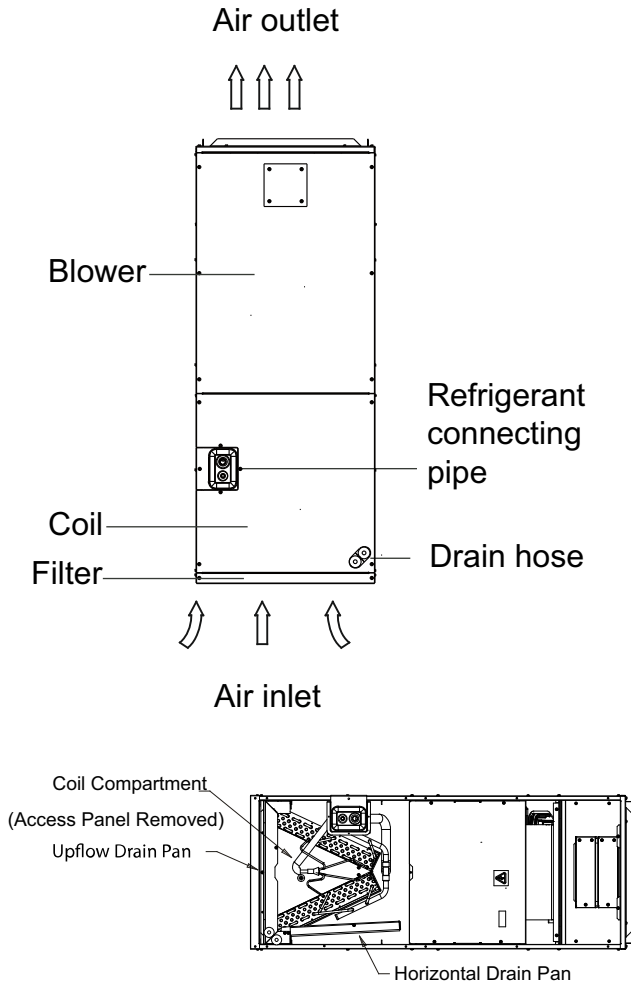

Fig. 18 —Indoor Unit Representation
- Illustrations in this manual are for explanatory purposes. The actual shape of your indoor unit may be slightly different. See Fig. 18. The actual shape shall prevail.